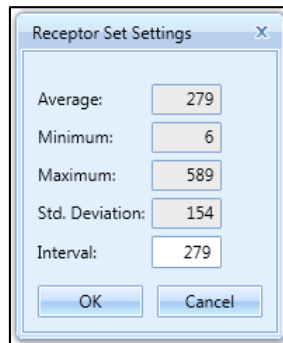

Figure 5-32 Receptor Set Settings Dialog for Number Above Noise Level
- For metric results processed with the Number Above Noise Level option, the *Receptor Set Settings* dialog is displayed (Figure 5-32).